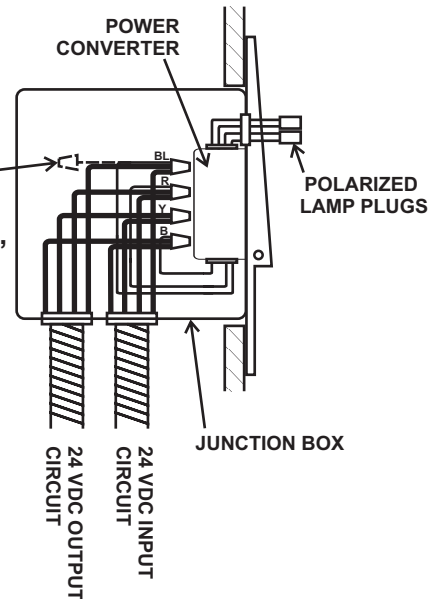

FIG. 2
1. See Fig 2., circuit wiring. Trim leads as required and connect color-matched 24VDC input/output wiring as shown with standard wire nuts. Cap off BLUE wire from power supply if security lighting not required.